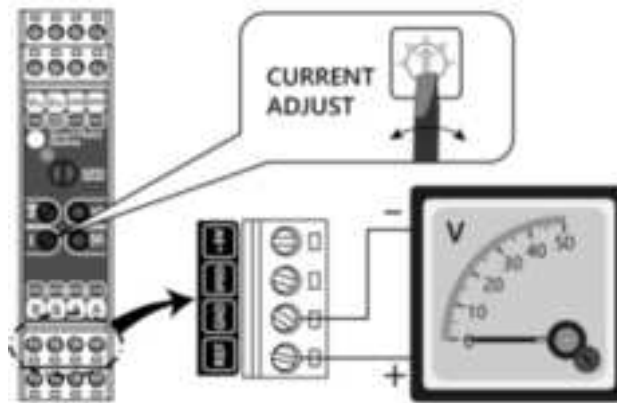

Fig. 3. Connection of a voltmeter for setting a motor maximum current limit
- 8) Using the potentiometer «CURRENT ADJUST», set the maximum motor current. Adjust the «CURRENT ADJUST» potentiometer and control the set current limit by a voltmeter, connected to «GND» and «V_{ref}» terminals (Fig.3). The motor current limitation can be calculated as: